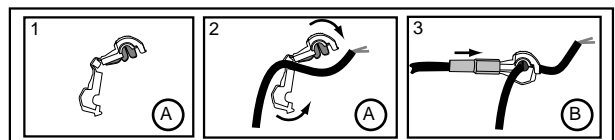

Fig. 3
6. Lead the rest of the wiring harness along the left side to the dashboard. Connect the red wire to the brakelight switch (fig. 1). Connect the orange wire by using the supplied pinch-connector (fig. 3) with the +30 live feed wire of the fusebox. (connector C)